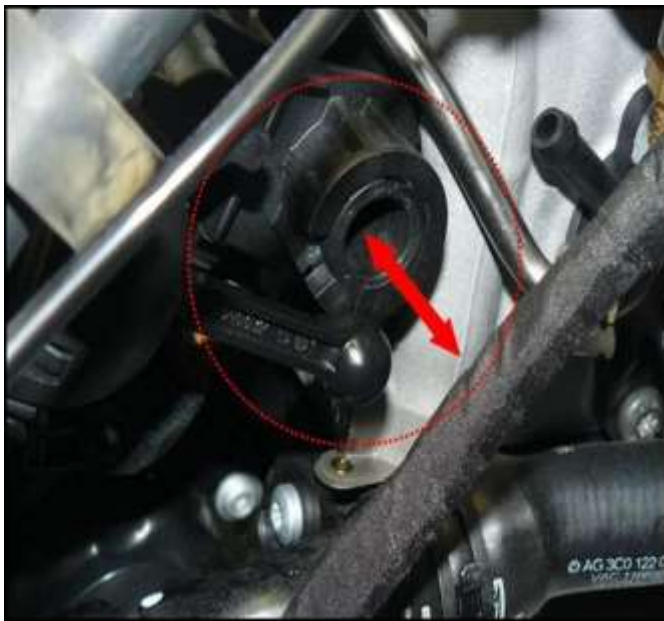

Figure 3.
- Move the carrier plate by hand in an axial direction (Figure 3, red arrow) to check if the carrier plate can be pulled out.